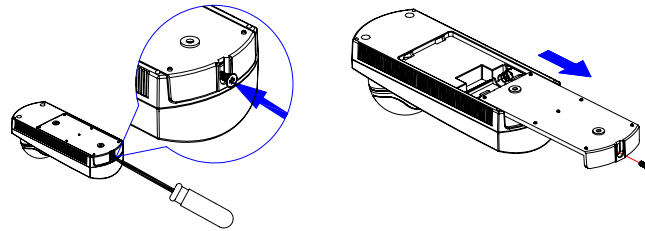

FIGURE 1a & 1b
1. Remove screw at base of compartment and slide off cover. (FIGURE 1a & 1b)